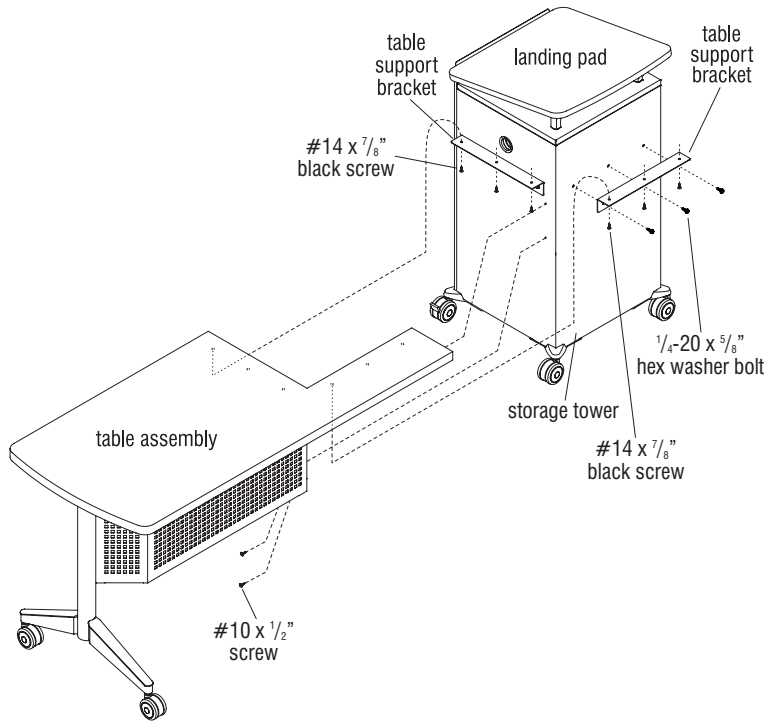

Figure 7
- Position one table support bracket over the pre-drilled holes in the side of the storage tower and secure using three $\frac{1}{4}$ -20 x $\frac{5}{8}$ " hex washer bolts as illustrated. Repeat procedure for second table support bracket at the adjacent side to the first (Figure 7).
- Carefully turn table assembly to the upright position and rest the table onto the table support brackets installed to storage tower. Align pre-drilled mounting holes at underside of table with holes in both table support brackets and secure brackets to table using three #14 x $\frac{7}{8}$ " black screws per bracket. Next using two #10 x $\frac{1}{2}$ " screws, attach modesty panel vertical flange to side of the tower through pre-drilled holes (Figure 7).
- Using two 4mm x 10mm screws, fasten the pull to the door as illustrated (Figure 7).
- Finish the inside of the door with two black plastic screw caps (Figure 7).